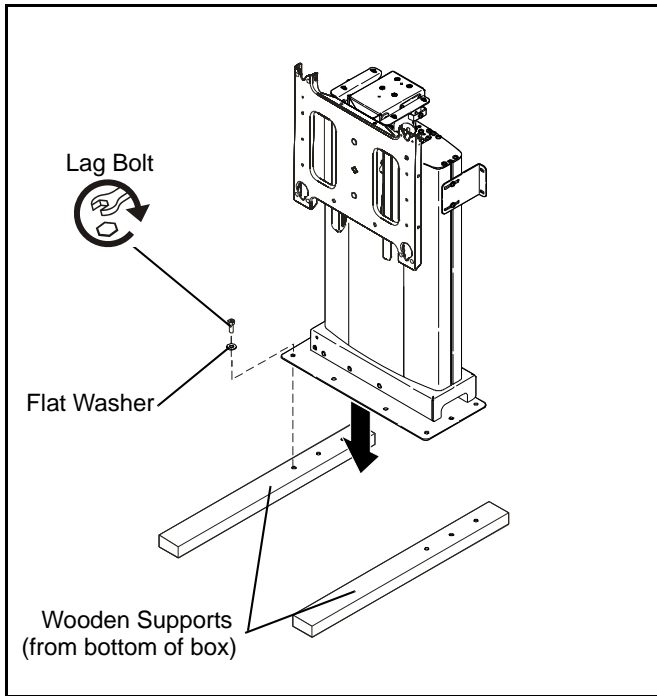

Figure 1
3. Lay two wooden supports on floor and mount to supports using six 5/16 flat washers and six 5/16 x 1 1/2" lag bolts (hardware not provided). (See figure 1)